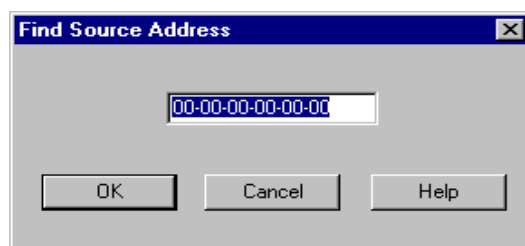

Figure 2-11. Find Source Address Window
2. Drag down to **Find Source Address...**, and release. The Find Source Address window, Figure 2-11, will appear.